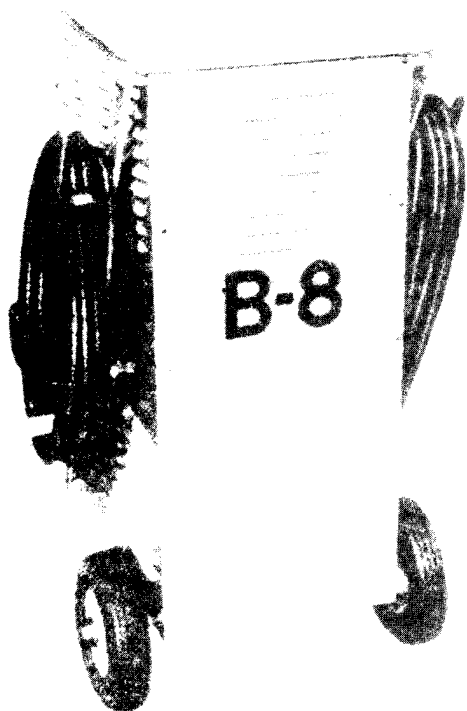

Figure 1-1. Power Supply PP-4606B/G.
a. This manual covers installation, operation, functioning, and maintenance for Power Supply PP-4606B/G (fig. 1-1). It includes instructions for troubleshooting, testing, and repairing the equipment. Detailed functions of the equipment are covered in chapter 4.
(fig. 1-1)